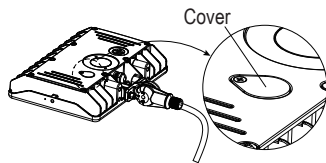

Figure 3
Step 4: Slide the cover back into the initial position and tighten the screw holding the cover. (Figure 3)